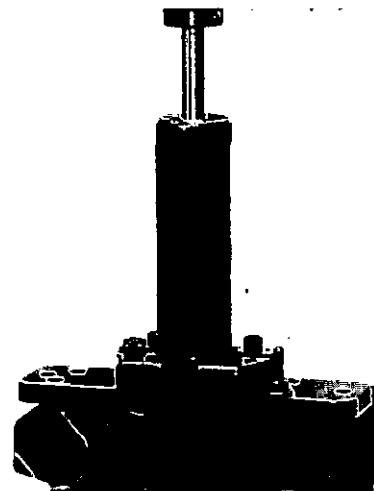

Fig. 7-2. Install The Boring Tool.
- 6) Fasten the boring tool to the pump body with capscrews, Fig. 7-2. Rotate the shaft to make sure it will turn freely.